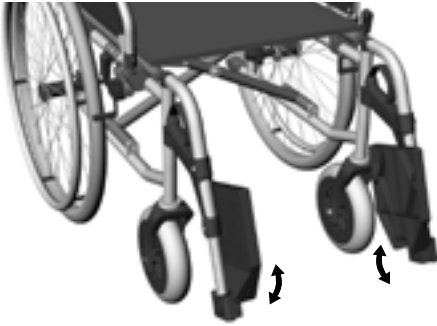

fig. 8
2. Swivel the foot plate upwards. (fig. 8)